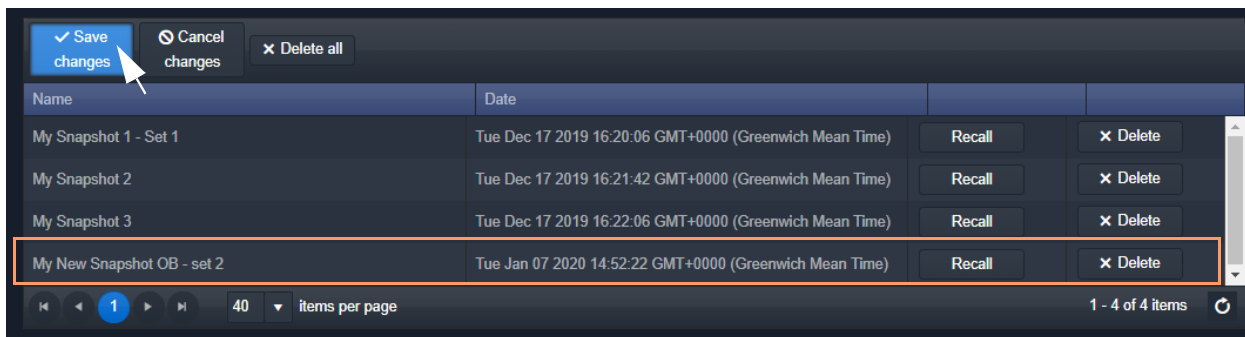

Figure 27: Snapshot Name Changed and Saved
- 3 Click **Save Changes**. (See Figure 27.)